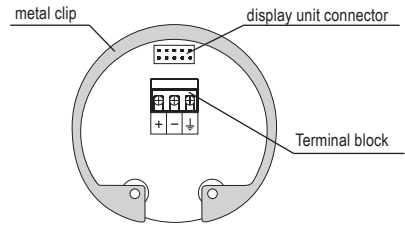

Fig. 32: Inside view of screw terminals of the level meter with current output GRLM-70_--_I
5. Connect the cable to the screw terminals according to the diagram in Fig. 32 or 34. Firmly tighten the terminals and the cable outlet. Tightening torque see. Technical parameters p. 36.
6. If the level meter with Modbus is involved as a terminal for RS-485, we recommend (to avoid reflections on the line) to connect 120 Ω termination resistor. This is done by moving a small lever of the switch marked 120 Ω to the ON position. On the level meters connected to the line RS-485 as an intermediate device, the termination resistors are not connected (switch remains off) in Fig 32.
In the event of strong ambient electromagnetic interference, paralleling of conductors with power distribution, or for distribution to distances over 30 m, we recommend grounding the level meter (see above) and using a shielded cable. Ground the shielding of the cable on the side of the power supply, or the shielding is possible to connect only on inside pin of the level meter marked \ominus see fig. 32 and 34 (the shielding of the cable is always connected in a single location).